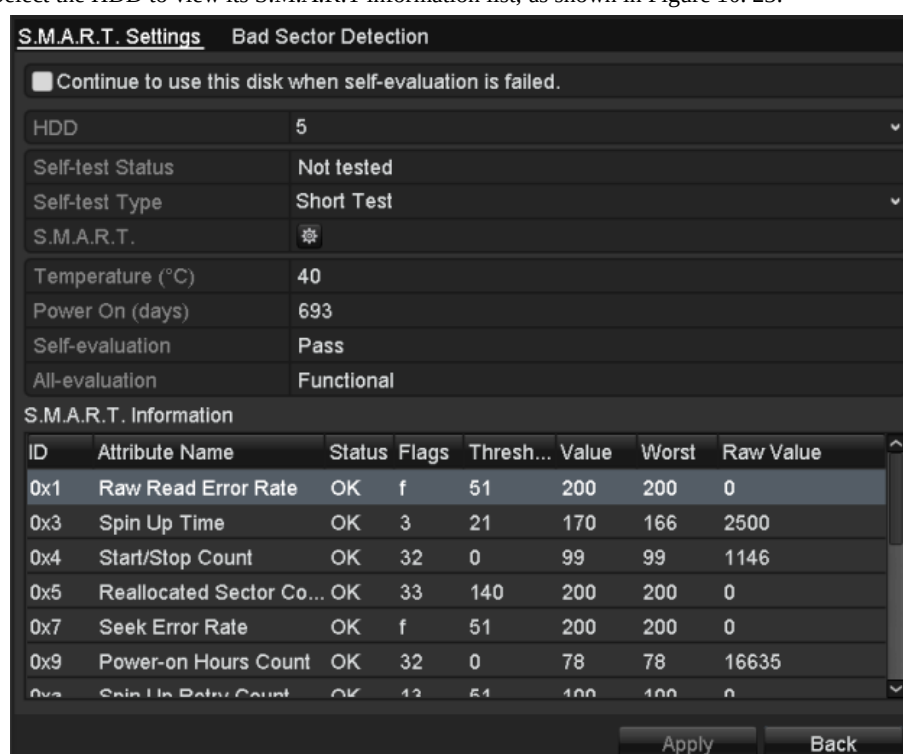

Figure 10. 23 S.M.A.R.T Settings Interface
2. Select the HDD to view its S.M.A.R.T information list, as shown in Figure 10. 23.